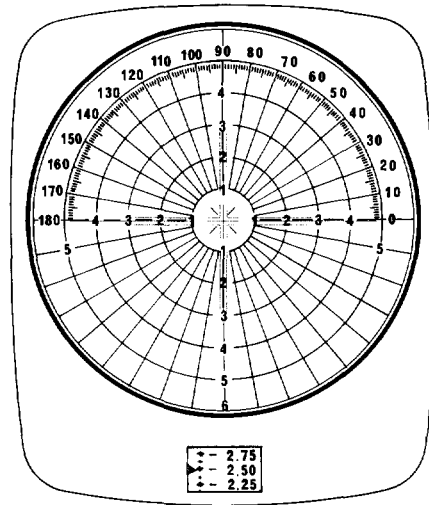

Fig. 4
- Set the lens on the lens table. Focus the target on the screen by rotating the diopter measuring knob (9). If the target is not at the screen center, bring it to the center by moving the lens on the lens table and focus the image. Read the figure (vertex refractive power) in the diopter scale window at the screen bottom. (Fig. 4)
Example of Fig. 4: -2.50 D